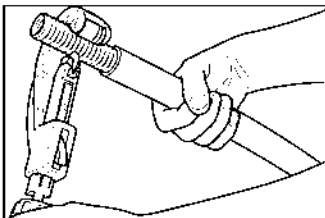

Figure: 4-52
6. Using the tubing cutter, trim corrugated pipe to strip length specified in Table: 4-8. Cut slowly in the root of the corrugation in the same manner you would cut copper tubing. Inspect end of pipe for a clean cut without tears in corrugation. Figure: 4-52.